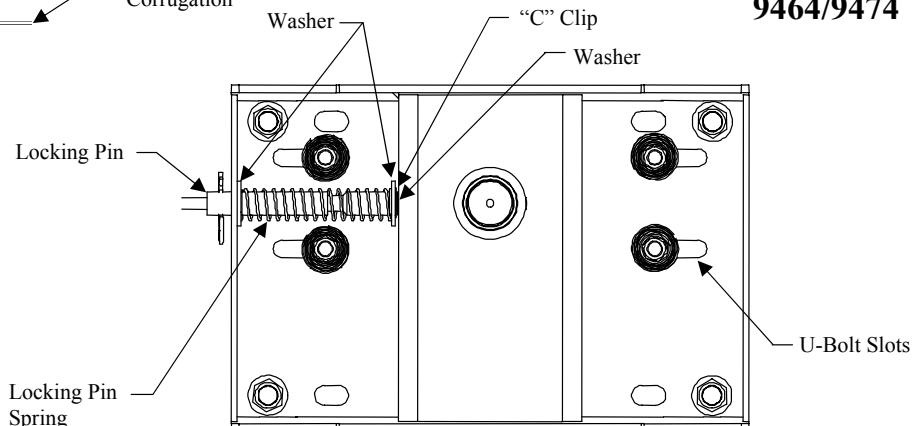

Figure 4
- 2A. If handle is to be moved to the other side of the head, pull locking pin spring away from "C" clip and remove clip. The locking pin assembly can now be removed and assembled in the same order on the other side (see figure 4).